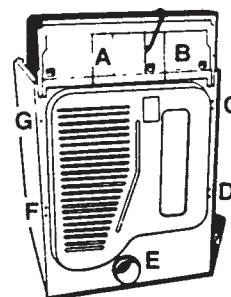

Fig. 4-43-NOTES-
2. Starting with screw (A) replace in order screws (A), (B), (C), (D), (E), (F) and (G) to secure the back panel of the dryer to the cabinet. (Fig. 4-43)